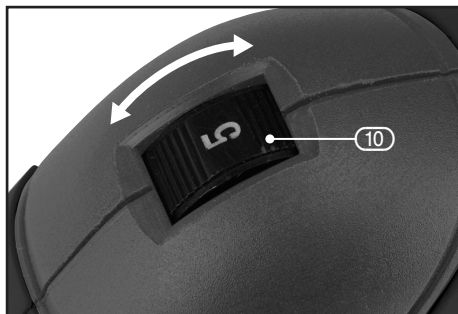

FIG.3
9.2 VARIABLE SPEED ADJUSTMENT – FIG.3